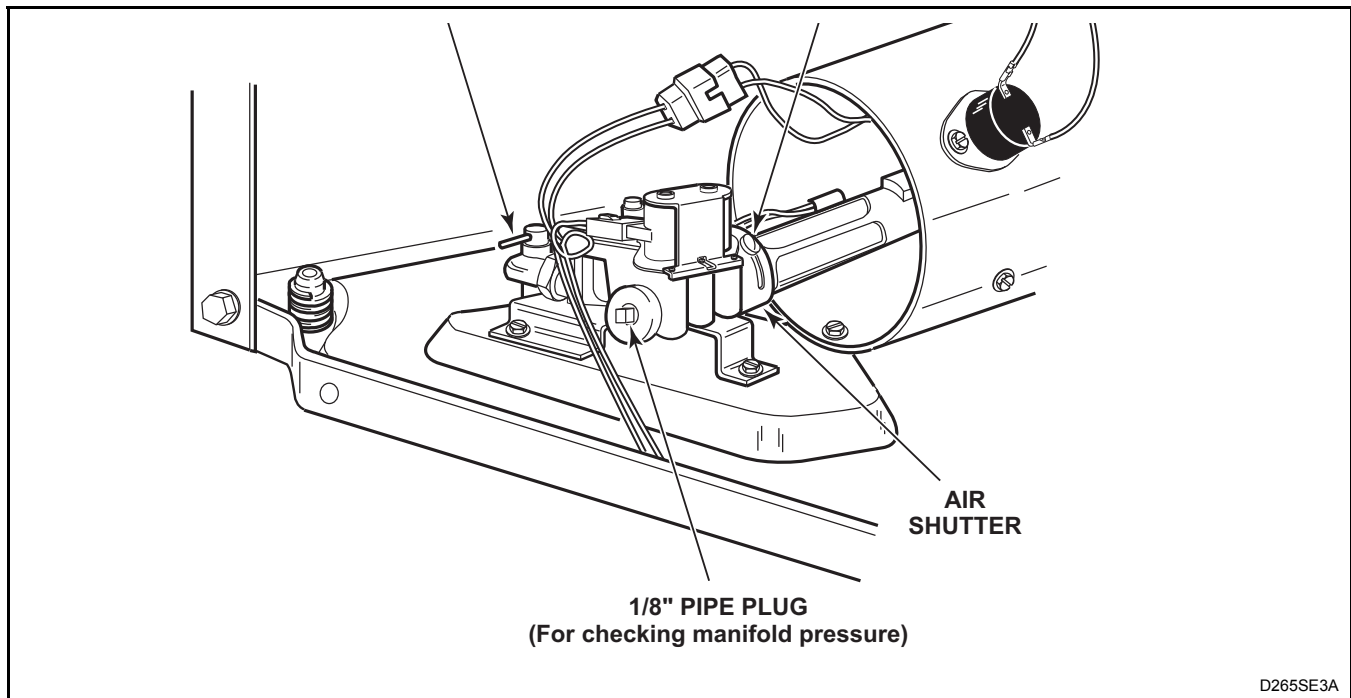

Figure 19
- e. Allow the dryer to operate for approximately five minutes, then loosen the air shutter lock screw. Refer to *Figure 19*.
- g. After proper flame is obtained, tighten air shutter lock screw firmly. Refer to *Figure 19*.